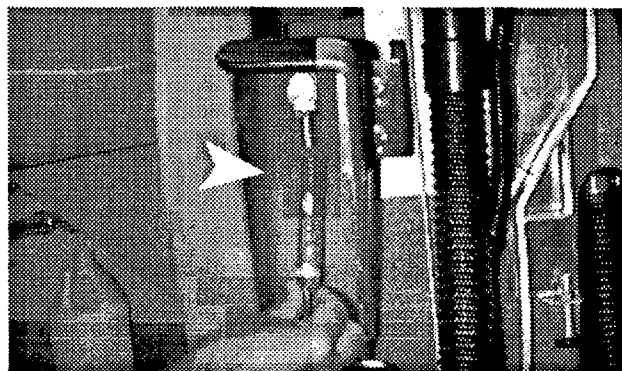

FIG. 19
1. Pull clear gallon marker hose off hose barb at rear of machine and drain solution into floor drain or bucket. (Figure 19)